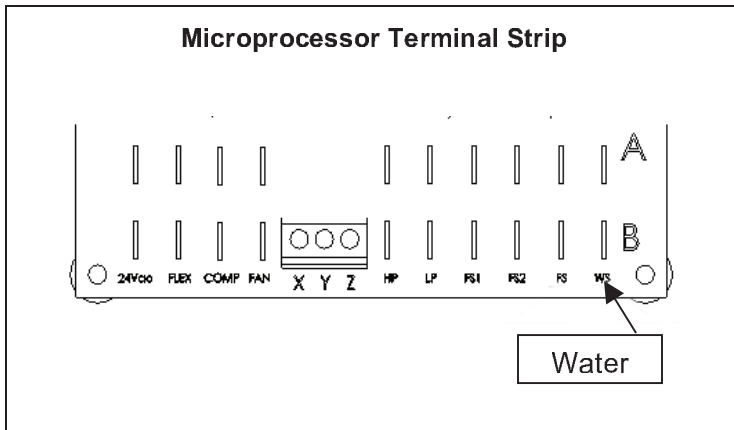

Figure 3
- 3) Within electrical enclosure, locate "WS" connections on right side of the microprocessor terminal strip. See Figure 3.